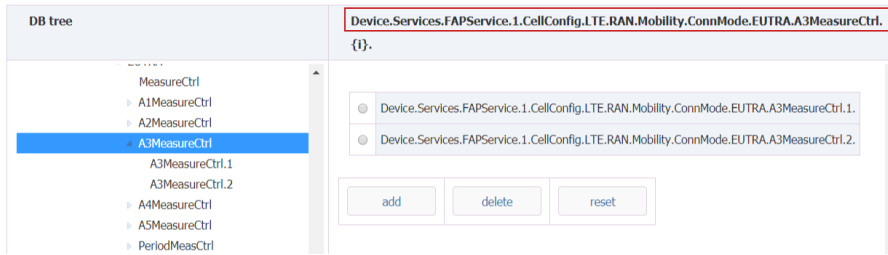

Figure 317 A3 events-
1. LTE same-frequency/different-frequency switching is triggered by A3 events. As shown in figure 317, there are two groups of configurations of A3 events, which are used in different scenarios:Error: Reference source not found